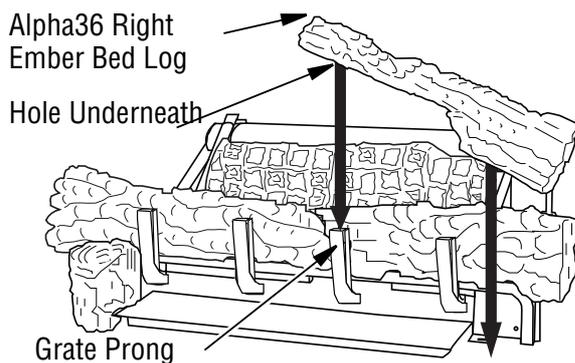

Figure 31 - Installing Right Ember Bed Log
- The Alpha32 and Alpha36 use two different right ember bed logs. The Alpha32 right ember bed log is installed in the same manner as the log in step 3 above but on the right side. The Alpha36 right ember bed log has a hole in the bottom that sets on the grate finger and the other end rest on the fireplace floor, place log as shown in **Figure 31**. The back side of this log needs to rest against the front of the base assembly, make sure the flame from the ember pan does not touch the ember bed log.